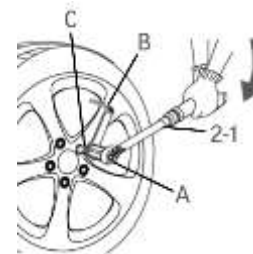

Fig. 2
2. Attach the output square drive (C) to the fastener to be loosened (Fig. 2).